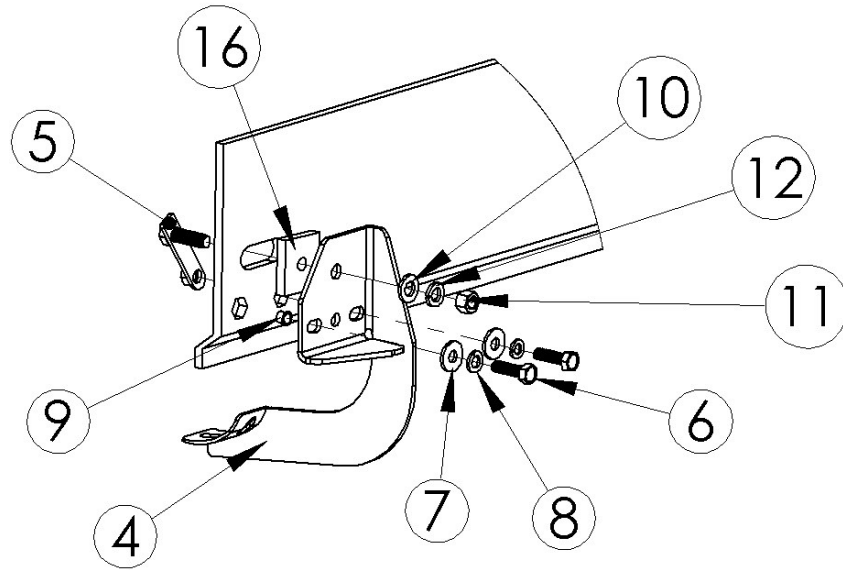

Fig. 5
3. Take (1) M10 riv-cert and place it into the lower left hexagonal hole FIG 2. To install the riv-cert take the drivers side front mounting bracket and loosely attach it to the previously installed M12 bolt/M10 nut plate using (1) M12 flat washer, (1) M12 lock washer, and (1) M12 hex nut. Locate the circular hole in the middle of the mounting bracket and position it over the riv-cert. Take (1) M10 hex head bolt and (1) M10 flat washer and carefully thread it through the circular hole in the bracket into the riv-cert, then tighten the M10 hex head bolt fully. This will seat the riv-cert into the rocker panel making the riv-cert permanently installed (**FIG 3**). Remove the M10 hex head bolt and flat washer and move the front mounting bracket into its normal position. Attach the mounting bracket to the installed riv-cert and M12 bolt / M10 nut plate using (2) M10 hex head bolts, (2) M12 lock washers, and (2) M10 flat washers (**FIG 4**). Do not fully tighten at this time. Refer to **Figure 5** for a picture showing the hardware used to mount the brackets onto the rocker panel.